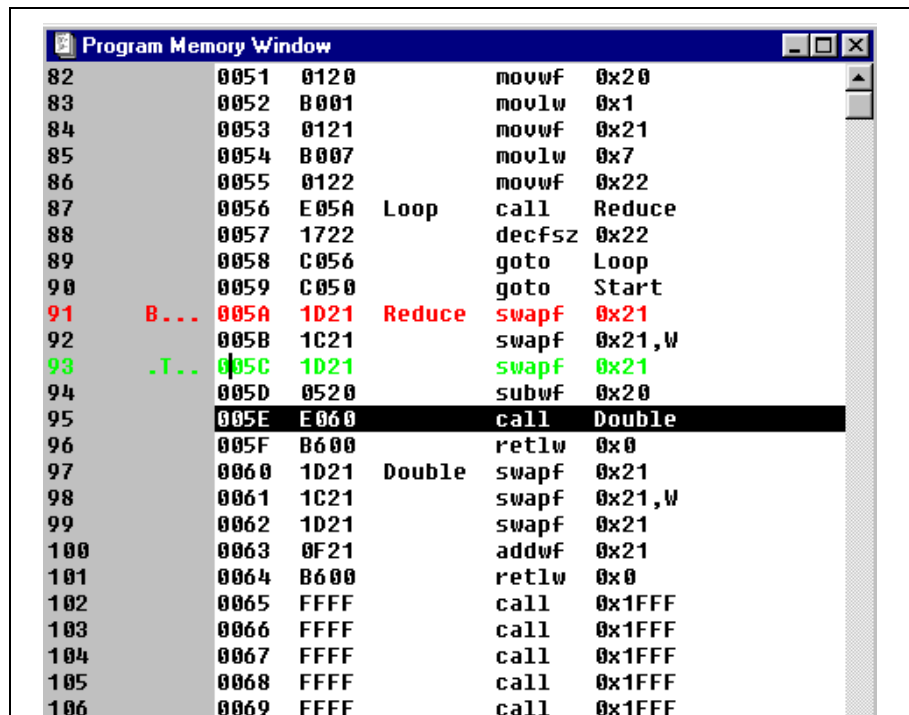

Figure 7.60: Program Memory Window – Machine Code Display
- **Machine Code Display** – This displays the disassembled hex code with no symbolic information (Figure 7.60).